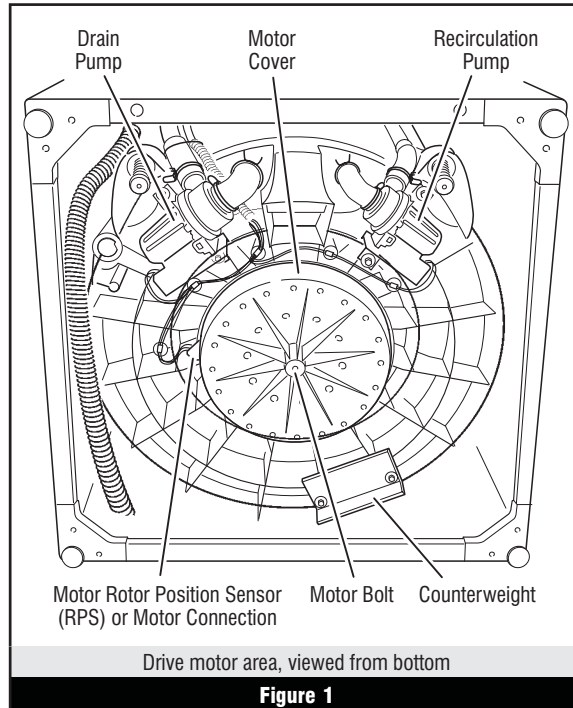
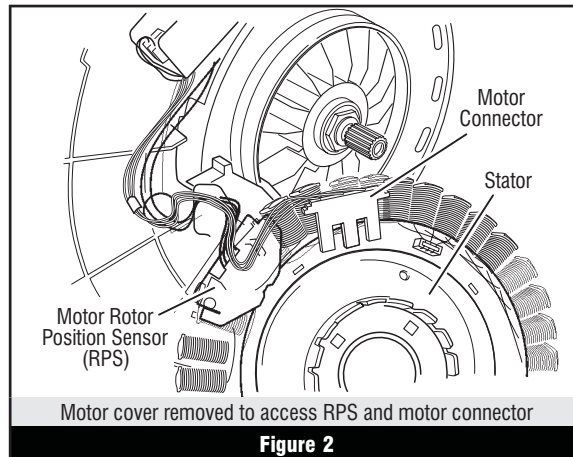

Figure 1
Figure 2
- Tilt machine forward to access the bottom of the machine and the drive motor area. See figure 1, page 5. Remove the motor bolt, then the motor cover to access the motor connections. See figure 2, page 5.
9. With an ohmmeter, check for continuity between all pins on the P10 machine motor control connector and the motor rotor position sensor (RPS) connector. See figure 2 at right and figure 4, page 16.
5. Tilt machine forward to access the bottom of the machine and the pumps. See figure 1, page 5.